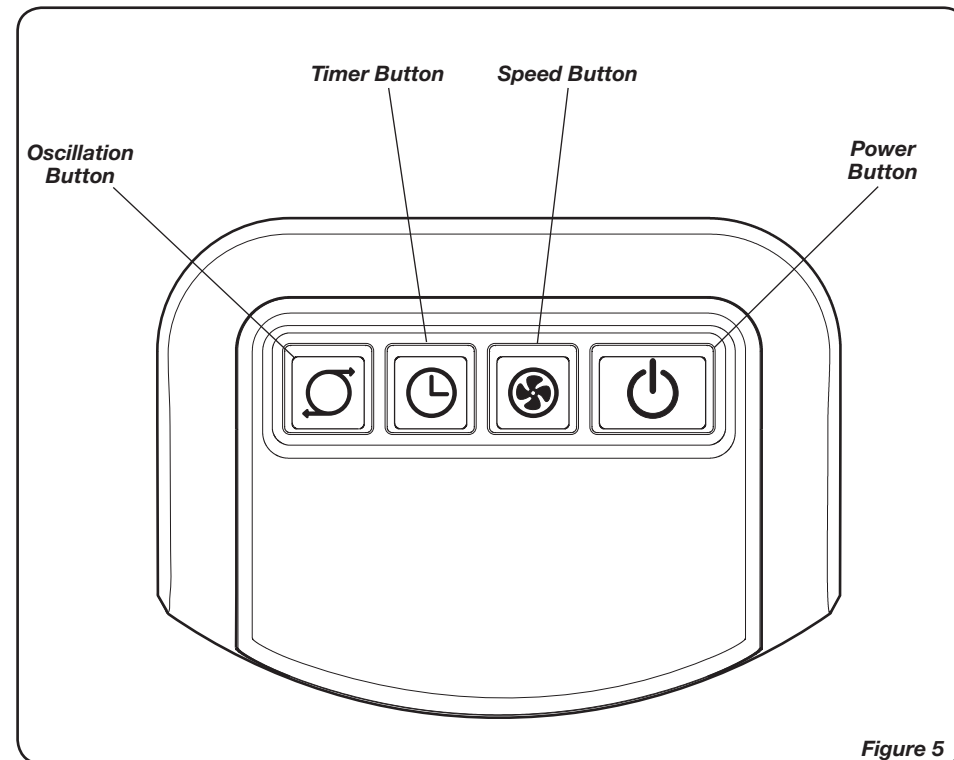
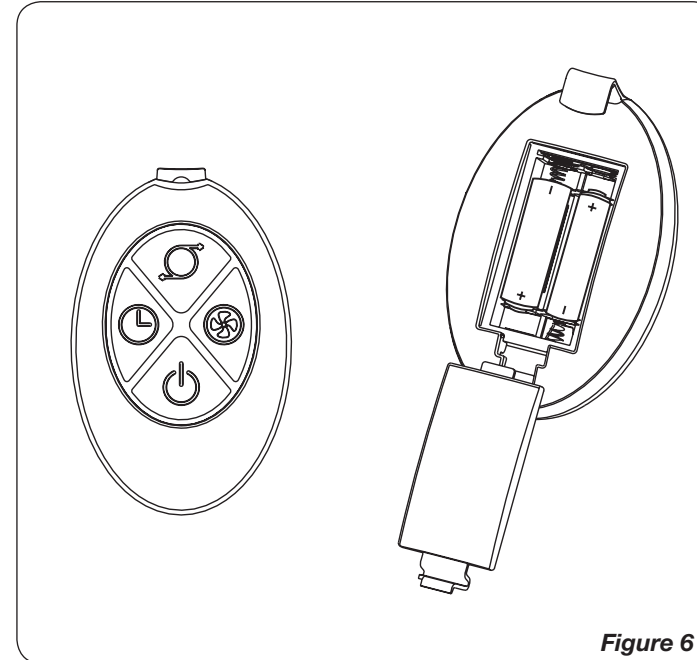

Figure 5
Figure 6
OPERATION (Figures 5 and 6)
This Fan may be operated by the Manual Controls located on top of the unit (as shown in **Figure 5**) or by the Remote Control (shown in **Figure 6**).
REMOTE CONTROL (Figures 6 and 7)
1. Install batteries (not supplied) as shown in *Figure 6*. The battery is size “AAA”.